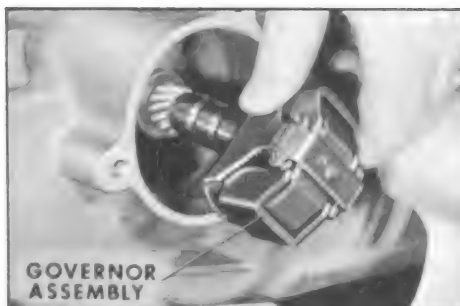

Figure 5-142
2. With a twisting motion slide governor assembly out of its bore in case. See Figure 5-142.